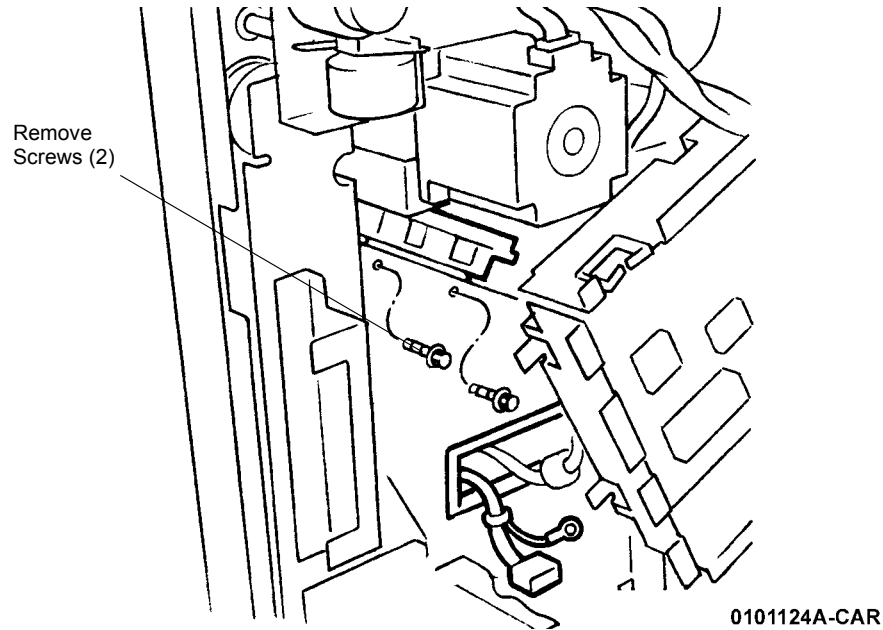

Figure 5 Removing Rear Rail Mounting Screws (2)
6. Remove Rear Rail Mounting Screws (2) (Figure 5).